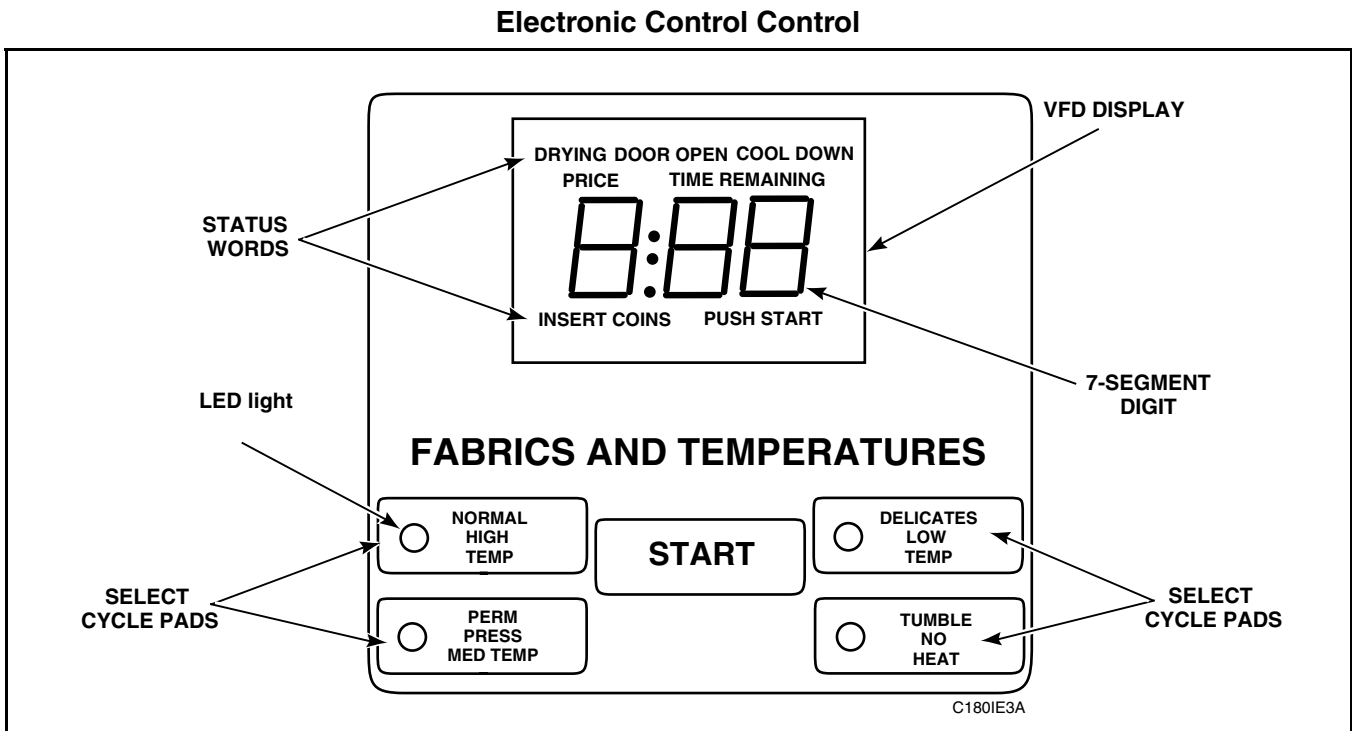

Figure 1
The Electronic Control on the tumbler is an advanced programmable computer that lets the owner control machine features by pressing sequences of SELECT CYCLE pads, *Figure 1*.
- VFD - Vacuum Fluorescent Display. This term refers to the window area of the Electronic Control control, *Figure 1*.
- LED - Light Emitting Diode. This term refers to the lights on the SELECT CYCLE pads, *Figure 1*.
*(Figure 1)*
SELECT CYCLE pads are used to select the specific tumbler cycle and temperature. These pads include HIGH TEMP, MED TEMP, LOW TEMP, and NO HEAT, *Figure 1*. SELECT CYCLE pads are also used in programming and customizing cycle information and retrieving audit information in *Section VII*, “*Entering the Special Mode.*”